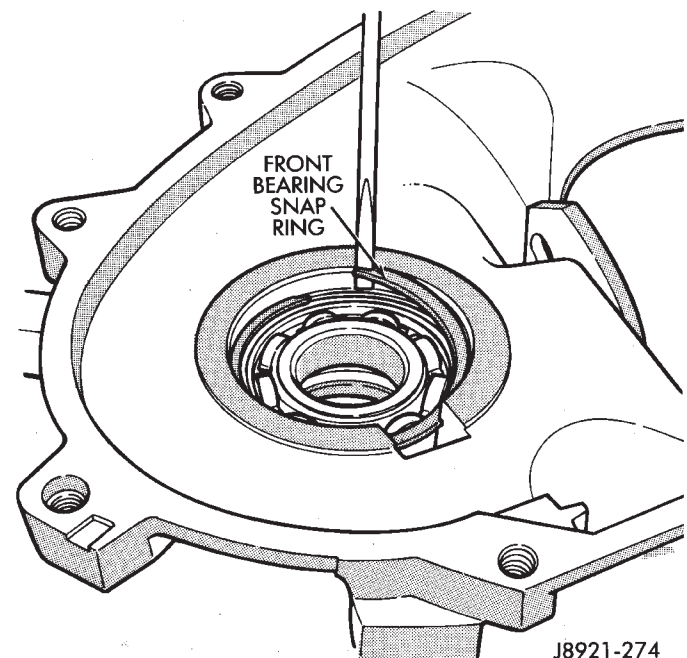

Fig. 37 Removing/Installing Front Output Shaft Front Bearing Snap Ring
(2) Remove front output shaft, front bearing snap ring (Fig. 37).
(4) Install front bearing snap ring (Fig. 37).